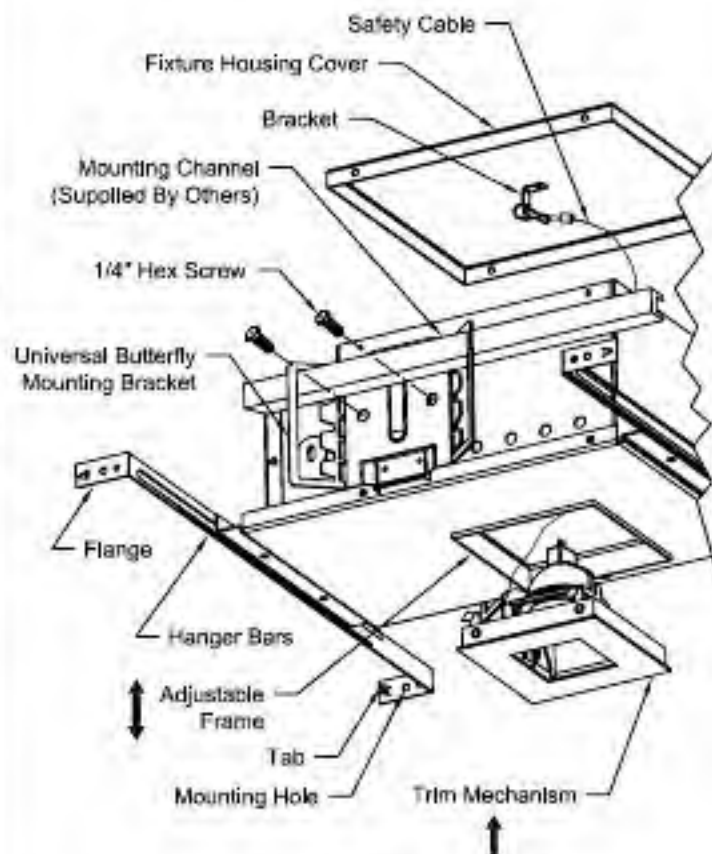
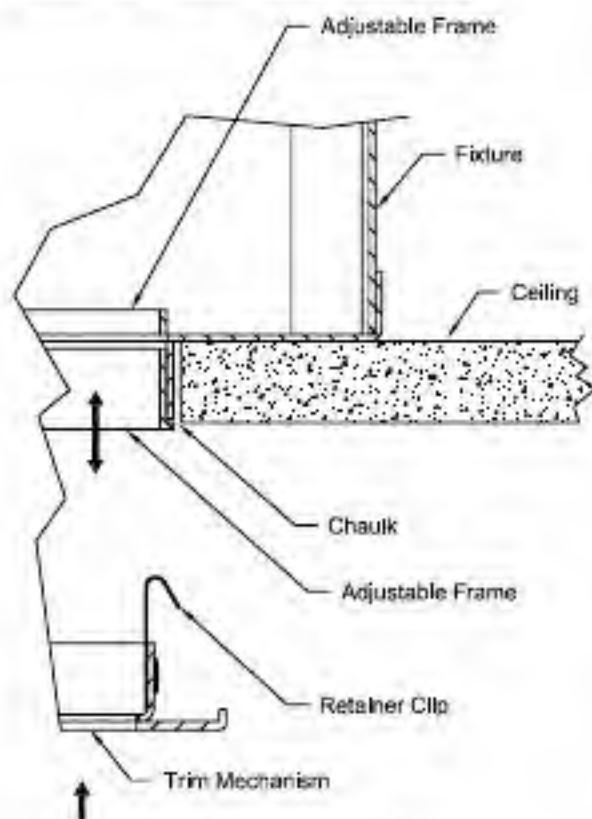
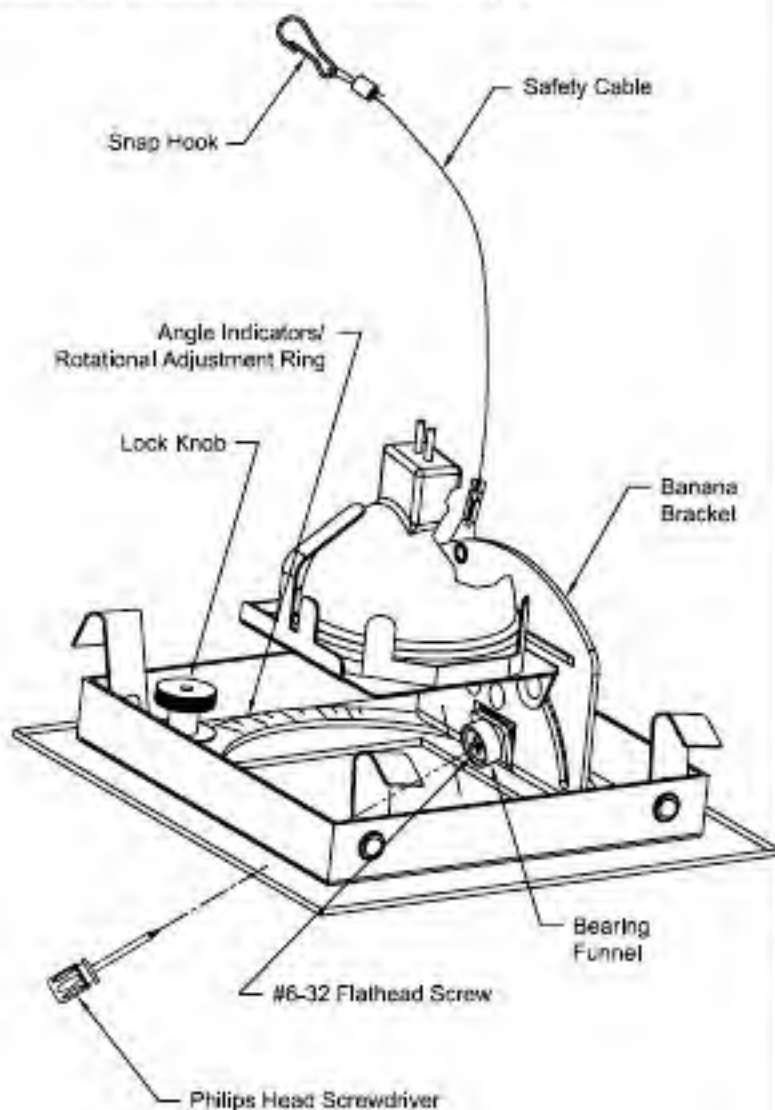

Figure 1
Figure 2
Figure 4
1. Fixture comes equipped with Universal Butterfly Mounting and can take common 1 inch or 1-1/2 inch Black Iron or Galvanized Mounting Channels (Supplied By Others). See Fig. 1.
5. Adjust elevation of Fixture so Adjustable Frame Edge will be flush with surface of finished Ceiling by loosening two (2) 1/4 inch Hex Screws on both Universal Butterfly Mounting Brackets. See Fig. 1.
6. Tighten two (2) 1/4 inch Hex Screws on both Universal Butterfly Mounting Brackets to secure Fixture. See Fig. 1.
7. Install Ceiling drywall up to Adjustable Frame on Fixture. See Fig. 2.
8. Position Adjustable Frame to be in plane with Ceiling by sliding up or down. See Fig. 2.
3. Hammer Flanges to seat Hanger Bar Tabs in rafters. See Fig. 1.
4. Secure Hanger Bars using one (1) nail in Mounting Hole in each Flange.
5. Install Ceiling drywall up to Adjustable Frame on Fixture. See Fig. 2.
6. Position Adjustable Frame to be in plane with Ceiling by sliding up or down. See Fig. 1 & Fig. 2.
1. Connect Safety Cable attached to Banana Bracket on Trim Mechanism (See Fig. 1 & Fig. 4) to Fixture by inserting Safety Cable through opening in Fixture and inserting Snap Hook (See Fig. 4) on end of Safety Cable into hole in Bracket attached to inside of Fixture Housing Cover (See Fig. 1).
2. Install Trim Mechanism into Fixture by pressing firmly to engage Retainer Clips. See Fig. 2.
1. With power ON and Trim Mechanism in place, Insert **Phillips Head Screwdriver** through Hole or Slot in Trim into Bearing Funnel. See Fig. 4.
2. To re-aim Lamp, turn #6-32 Flathead Screw to desired position using visual Angle Indicators on Banana Bracket. See Fig. 4.